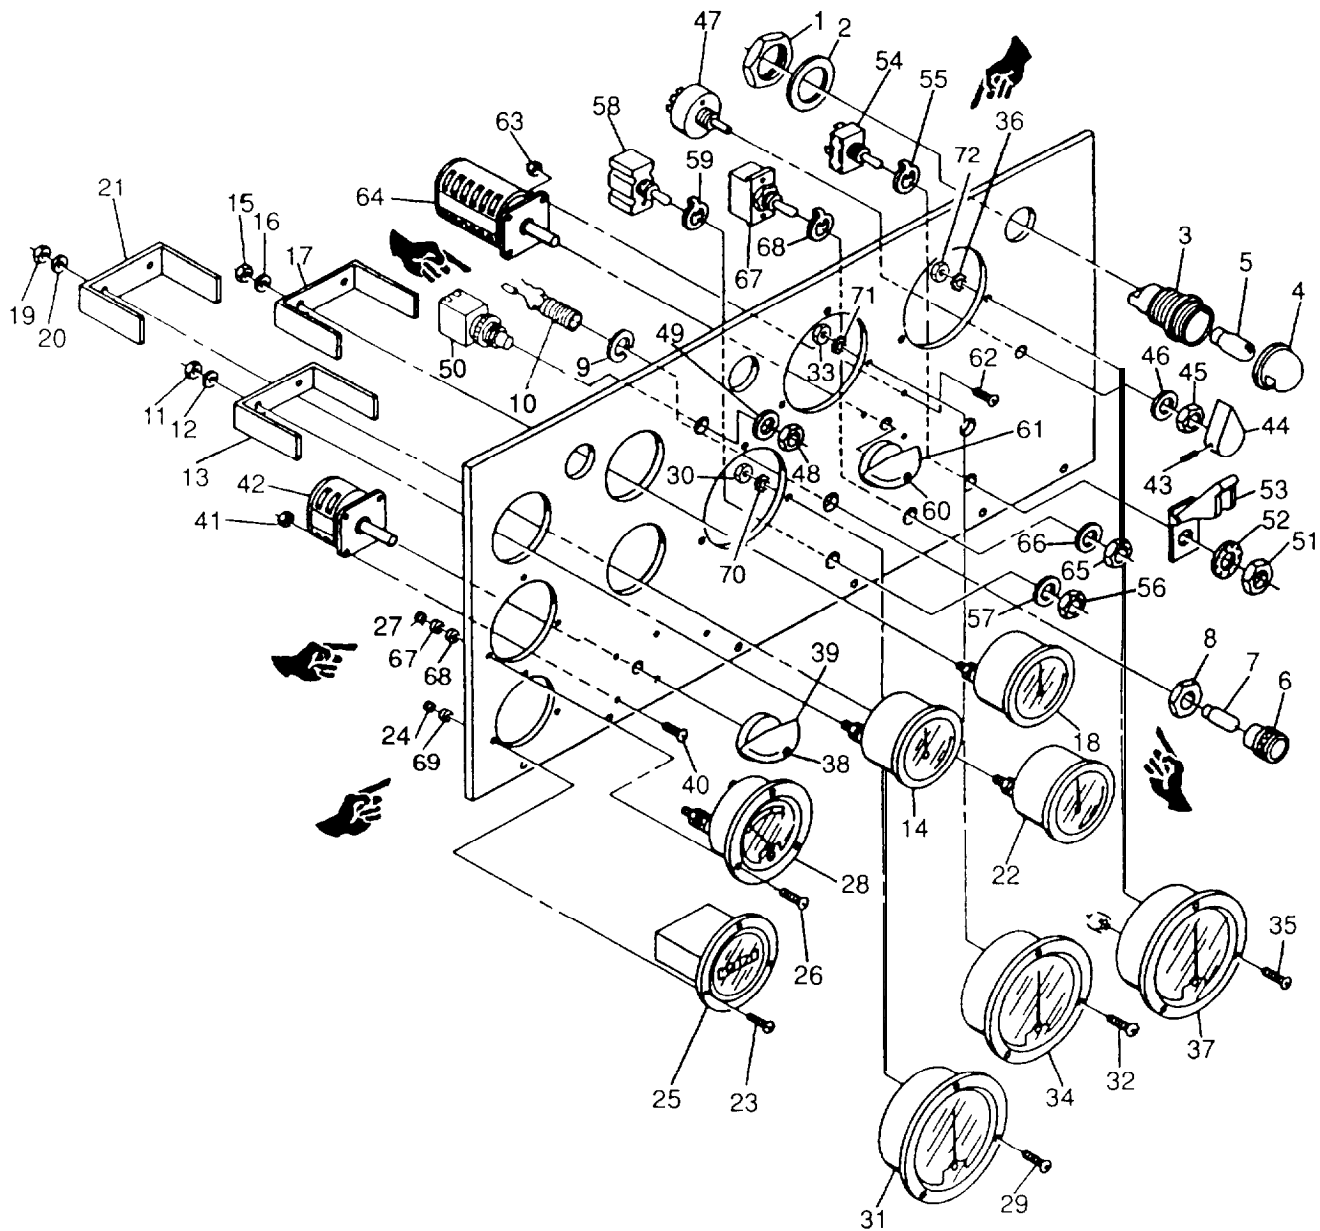

FIGURE 2-14. Control Panel Indicators and Switches
- Tag and disconnect panel light (3, FIGURE 2-14) electrical leads.
- Remove nut (1) and washer (2).
- Remove panel light (3) from control panel.
- a. Remove panel light directional cap (4, FIGURE 2-14) from panel light housing (3).
- b. Remove panel light bulb (5).
- a. Install panel light bulb (5, FIGURE 2-14) into panel light housing (3).
- b. Install panel light directional cap (4).
- a. Insert panel light bulb (3, FIGURE 2-14) into control panel.
- b. Install washer (2) and nut (1).
- b. Press in lamp holder (6, FIGURE 2-14) and check that lamp is lit.
- c. If lamp (7) fails to light, set multimeter for DC volts and check for battery voltage at receptacle (10) terminals 1 and 3.
- d. Tag and disconnect electrical leads to light receptacle (10, FIGURE 2-14).
- e. Remove lamp holder (6), nut (8), lockwasher (9), and receptacle (10) from control panel.
- f. If necessary, remove lamp (7) from lampholder (6).
- a. Install indicator light receptacle (10, FIGURE 2-14) in control panel with lockwasher (9) and nut (8).
- b. If removed, install lamp (7) in lamp holder (6).
- c. Install lamp holder (6) receptacle (10).
- d. Tag and disconnect fuel level indicator (14, FIGURE 2-14) electrical leads.
- e. Remove nuts (11, FIGURE 2-14), washers (12), and clamp (13).
- f. Remove FUEL LEVEL indicator (14) from control panel.
- a. Insert FUEL LEVEL indicator (14, FIGURE 2-14) into control panel.
- b. Install clamp (13), washers (12), and nuts (11).
- d. Tag and disconnect COOLANT TEMP. indicator (18, FIGURE 2-14) electrical leads
- e. Remove nuts (15), washers (16) and damp (17).
- f. Remove COOLANT TEMP. indicator (18) from control panel.
- a. Install COOLANT TEMP. indicator (18, FIGURE 2-14) in control panel.
- b. Install washers (16) nuts (15) and damp (17).